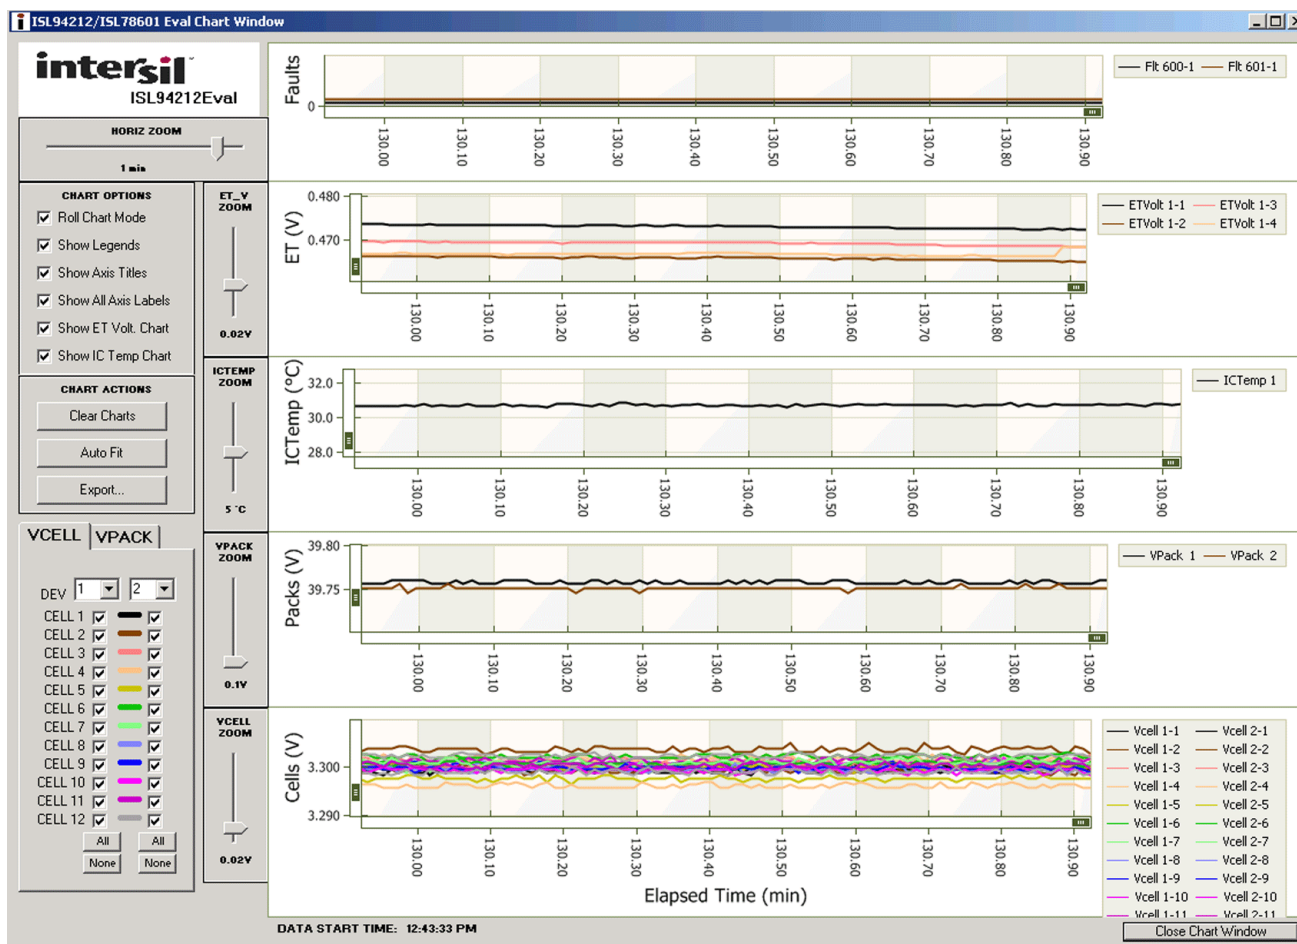

Figure 9. Chart Window
9. Use the **Show Chart** button to view various voltages and status in real time (See Figure 9).